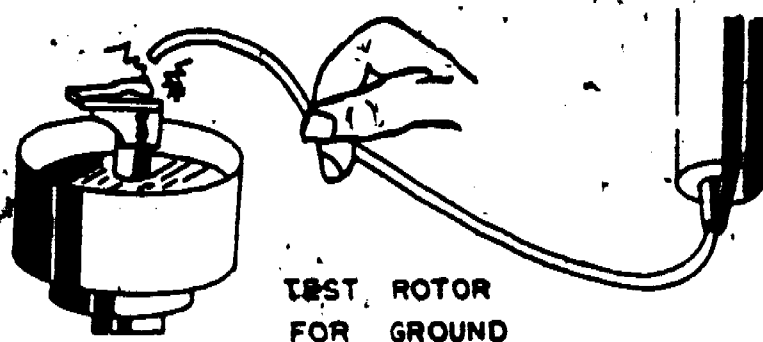

Figure 3* Testing for Grounded Rotor.
(3) A heavy spark jumping from wire to tip indicates a grounded rotor, figure 3.